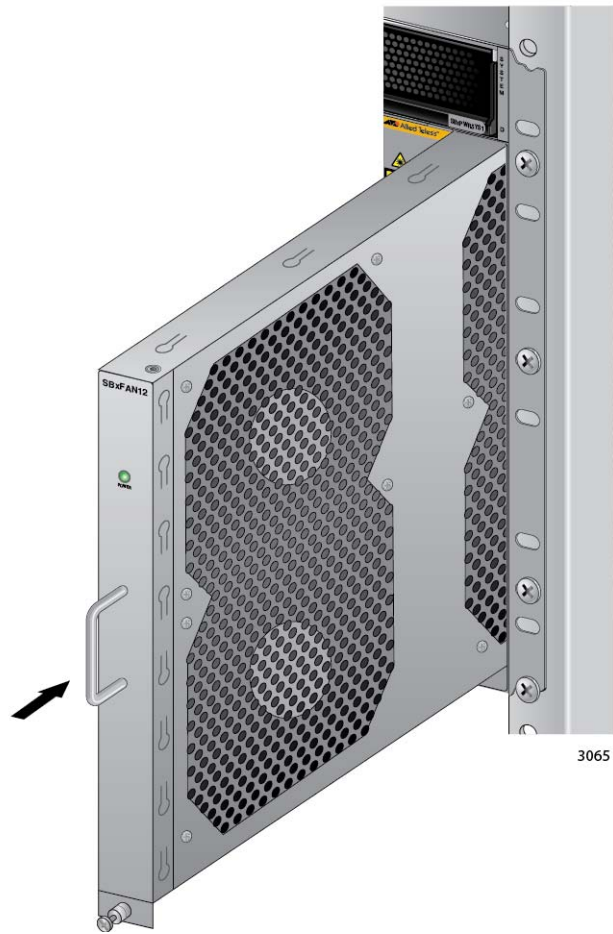

Figure 181. Installing a New AT-SBxFAN12 Fan Module
1. Orient the new module with the LED and module name on top and carefully slide the new module into the slot in the chassis. Refer to Figure 181 on page 285.